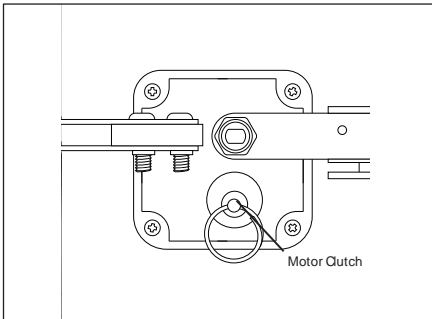

Figure 6
- Locate the MOTOR CLUTCH on the underside of your device (fig 6,) and pull it outward by the keychain ring. The CONTROL ARM will disengage from the motor and move freely.